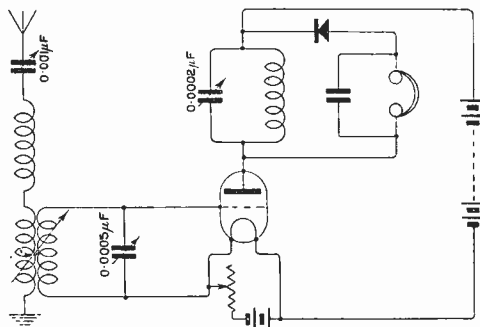

Fig. 2.
should be connected across the inductance only. If the connections are made to include the inductance and capacity, very little or no voltage will be applied to the valve. The anode winding should be tuned with a small condenser having a maximum value of 0.0002 mfd. The aerial condenser should have a maximum value of 0.0002 mfd. The aerial condenser should have a maximum value of 0.001 mfd. (2) We suggest you rewire the circuit according to Fig. 2. You will note that we have added a closed circuit comprising a coil and condenser. The condenser has a maximum value of 0.0005 mfd., and the coil should be similar in size to the aerial coil to which it is coupled.